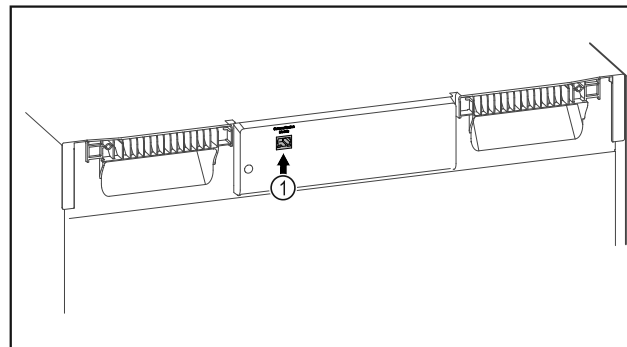

Fig. 104
- ❑ SmartModule Fig. 104 (1) is in use.